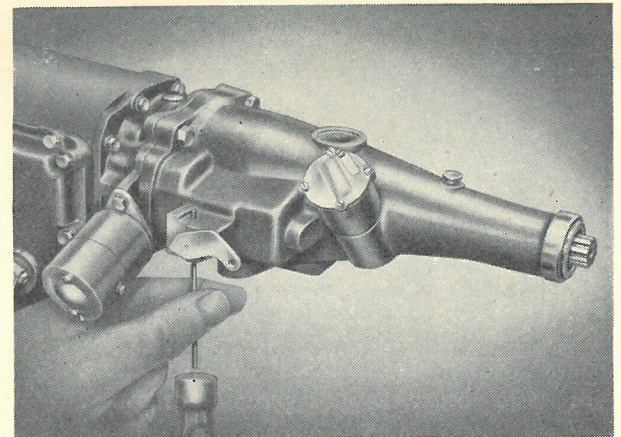

Fig. FF.19.
2. Drive out the taper pin securing the manual control shaft, and withdraw the control shaft and lever from the housing (see Fig. FF.19).